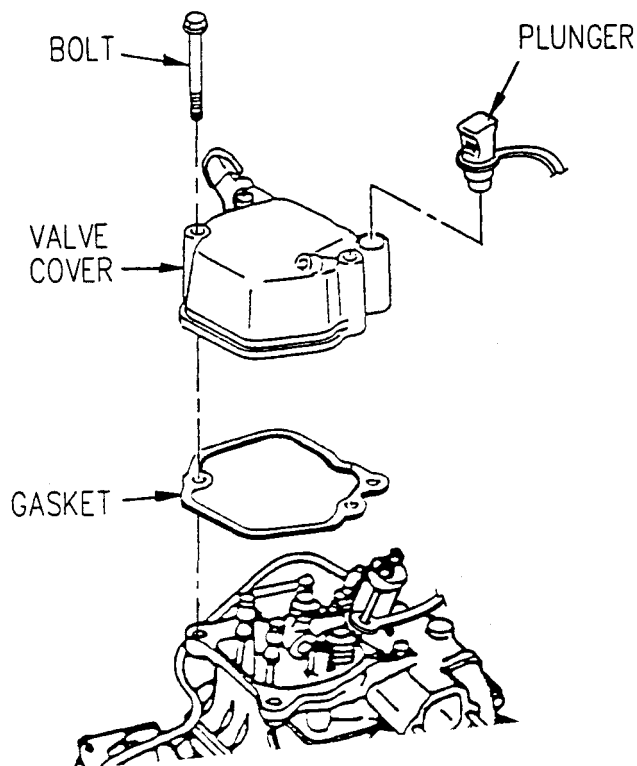

Figure 4-58. Valve Cover
- (1) Shut down generator set.
- (2) Remove plunger (Figure 4-58) from valve cover.
- (3) Remove bolts, valve cover, and gasket from cylinder head. Discard gasket.
- (1) Install new gasket (Figure 4-58) and valve cover on cylinder head with bolts.
- (2) Install plunger in valve cover.